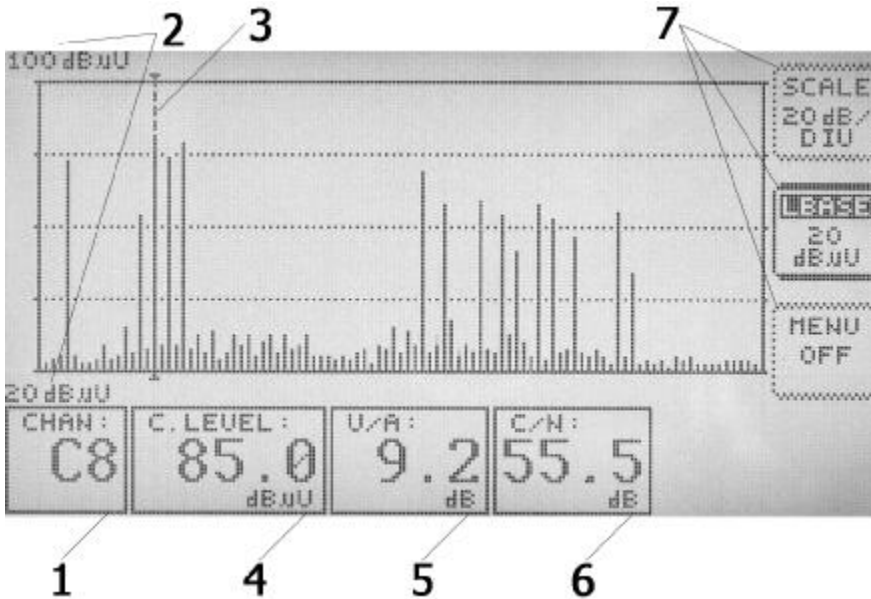
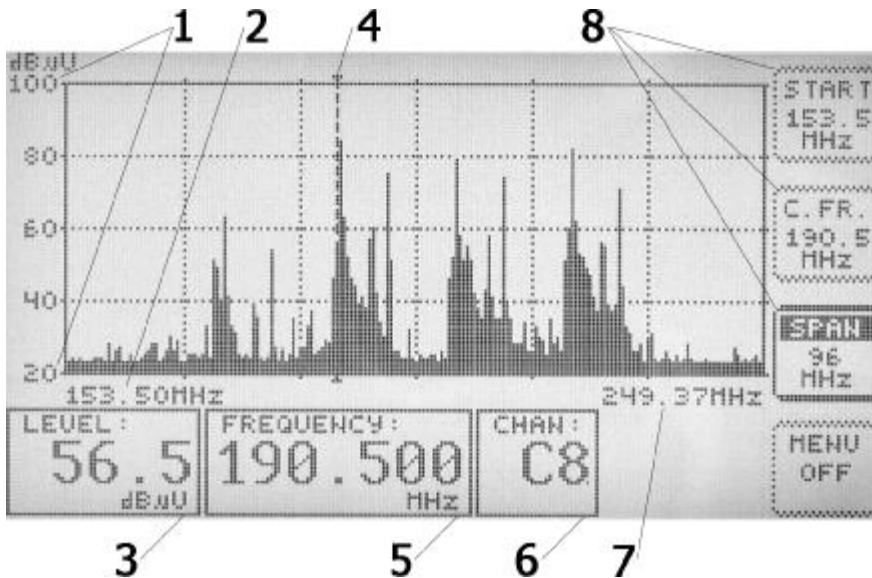
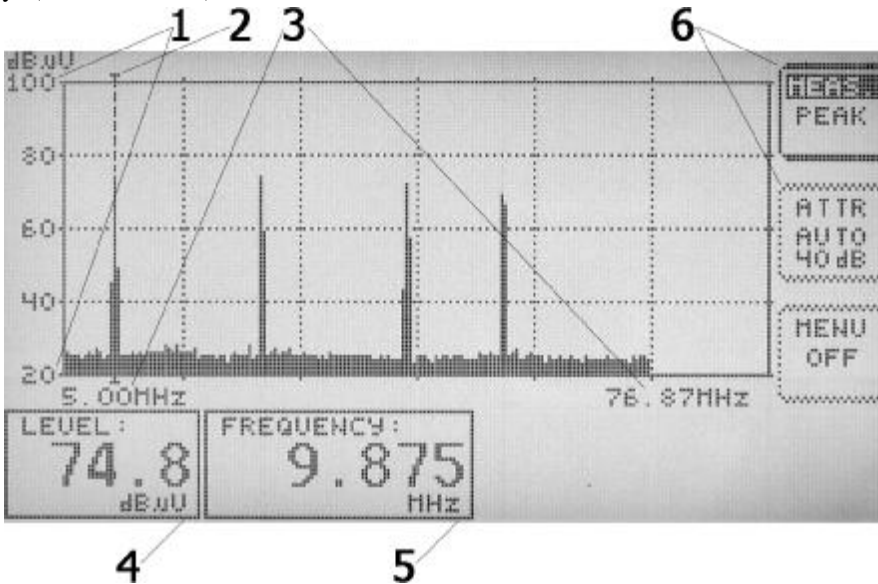
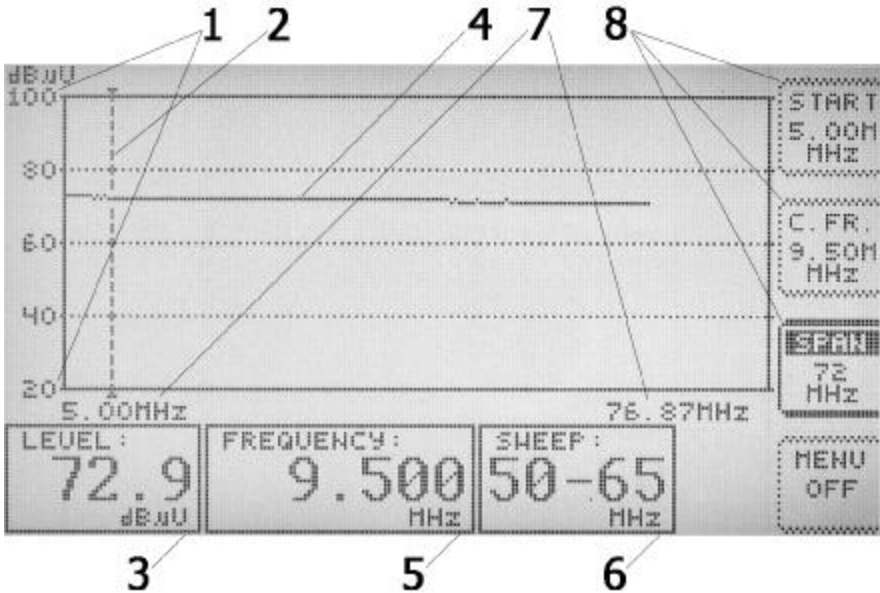

Figure 4.3
Figure 4.4
Figure 4.7
Figure 4.8
In this mode the video carrier levels of all the TV channels are represented as vertical bar graph. The screen view is shown in Fig. 4.3. Position 1 indicates the number of channel, which is pointed by the marker (pos. 3). The marker is indicated as a vertical dashed line. The numerical value of the level of this video carrier is shown in position 4. The RF TV signal parameters are displayed in position 5 (Video/Audio ratio) and position 6 (Signal/Noise ratio).
In this mode the CIU-01 performs measurement of a spectrum region and displays it on the screen. The screen view is shown in the Fig. 4.4. The initial frequency of the sweep is indicated in position 2, the final frequency of the sweep is indicated in position 7. Position 5 indicates the value of the frequency, which is pointed by the marker (pos. 4). The marker is indicated as a vertical dashed line. The numerical value of the RF signal level in this frequency point is shown in position 3. Position 6 displays the TV channel number of this frequency point.
To select the frequency point, without changing parameters of the sweep span, use "←", "→" keys. Also you can move the marker rotating the control knob, except for the cases when "Frequency" menu is displayed (Fig. 4.4, pos. 8) and "START" or "C.FR." parameters have been selected.
The sweep span and its location you can set in "Frequency" menu (Fig. 4.4, pos. 8), which you can access by pressing "Frequency" key. To set the initial frequency of the sweep span select "START" parameter by pressing "F1" key. Then using "↑", "↓" keys, control knob, or entering the frequency by pressing numerical keys (from "0" to "9") set the desired value.
The vertical axis is the signal level (Fig. 4.4). Minimum and maximum values of the level are displayed in position 1. You can change the vertical scale of the graph. To set the scale press "Scale" key for the menu (Fig. 4.3, pos. 7) to be displayed. In this menu you can set the value of the scale deviation and the base level. To set the scale deviation value select "SCALE" by pressing "F1" key and using "↑", "↓" select the desired value (among available 20, 10, 4 and 2 dB/div.). To set the base level select "LBASE" by pressing "F2" key and using "↑", "↓" keys select the desired value.
In this mode the Monitor displays the return path spectrum on the screen. The screen view is shown in Fig. 4.7. Position 3 indicates the initial and final frequencies of the spectrum span displayed. Position 5 indicates the frequency, which is pointed by the marker (pos. 2). The marker is indicated as a vertical dashed line. The numerical value of the level of this frequency is shown in position 4.
move the marker rotating the control knob, except for the cases when "Frequency" menu is displayed (fig. 4.4, pos. 8) and "START" or "C.FR." parameters have been selected.
The spectrum span and its location you can set in "Frequency" menu (Fig. 4.4, pos. 8), which you can access by pressing "Frequency" key. To set the initial frequency of the spectrum span select "START" parameter by pressing "F1" key. Then using «↑», «↓» keys, control knob, or entering the frequency by pressing numerical keys (from "0" to "9") set the desired value.
The vertical axis is the signal level (Fig. 4.7). Minimum and maximum values of the level are displayed in position 1. You can change the vertical scale of the graph. To set the scale press "Scale" key for the menu (Fig. 4.3, pos. 7) to be displayed. In this menu you can set the value of the scale division and the base level. To set the scale division value select "SCALE" by pressing "F1" key and using "↑", "↓" select the desired value (among available 20, 10, 4 and 2 dB/div.). To set the base level select "LBASE" by pressing "F2" key and using "↑", "↓" keys select the desired value.
The screen view of the CIU-01 in this mode is shown in the Fig. 4.8.
To select a frequency point, without changes to the frequency response display parameters, you can move the marker by means of "←" and "→" keys. Also you can move the marker rotating the control knob, except for the cases when "Frequency" menu is displayed (Fig. 4.8, pos. 8) and "START" or "C.FR." parameters have been selected.
The frequency response span to be displayed and its location you can set in "Frequency" menu (Fig. 4.8, pos. 8), which you can access by pressing "Frequency" key. To set the initial frequency of the frequency response span select "START" parameter by pressing "F1" key. Then using "↑", "↓" keys, control knob, or entering the frequency by pressing numerical keys (from "0" to "9") set the desired value.
The vertical axis of the frequency response graph is the signal level (Fig. 4.8). Minimum and maximum values of the level are displayed in position 1. You can change the vertical scale of the graph. To set the scale press "Scale" key for the menu (Fig. 4.3, pos. 7) to be displayed. In this menu you can set the value of the scale deviation and the base level. To set the scale deviation value select "SCALE" by
In the menu "Options" (Fig. 4.7, pos. 6), which you can access by "Options" key, the following parameters are available: measurement type "MEAS." and Monitor input attenuation "ATTR.". The measurement type parameter can take on two values: normal "NORM" and quasi-peak "PEAK". In normal measurement mode the displayed signal level is updated with every sweep cycle. In quasi-peak mode the law of the level display variation is the following: if the signal amplitude is rising the current value will be updated by the new value, if otherwise the displayed level will be diminished by 2%. To set the measurement type select "MEAS." by pressing "F1" key and using "↑", "↓" keys select the desired value. To set the input attenuation select "ATTR." by pressing "F2" key and using "↑", "↓" keys select the desired value (among available 0, 20, 40 dB and "AUTO").